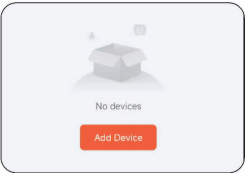

Figure 1
3.1 Long press the button for 3s to power on, and open the "Tuya Smart" APP at the same time. Click "Add device" on the APP(Figure 1), and click "Add" when the APP displays the discovered device (Figure 2).